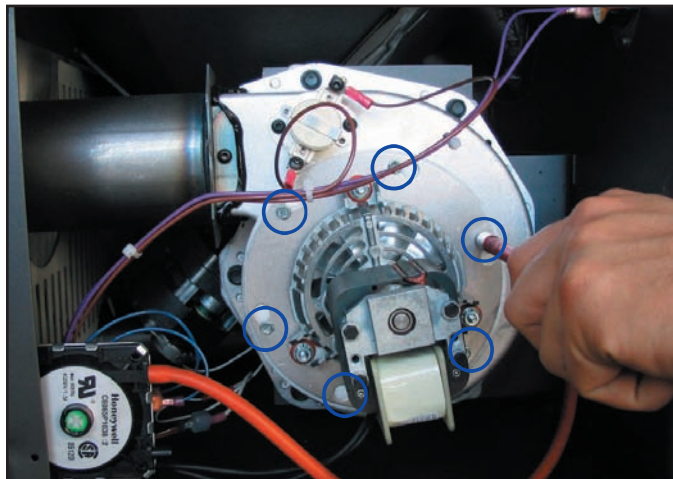

Figure 32: Loosening The Screws On The Exhaust Blower Motor.
1. Loosen, but do not remove, the six (6) screws using a 1/4" socket (refer to Figure 32).